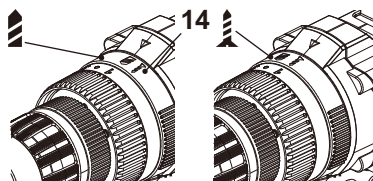

Fig. 7
Two working modes are available on this tool: drilling and screw driving. To select a mode rotate the function selection ring (14), to align the arrow with icon of the drill/screw on the housing. (Fig. 7).